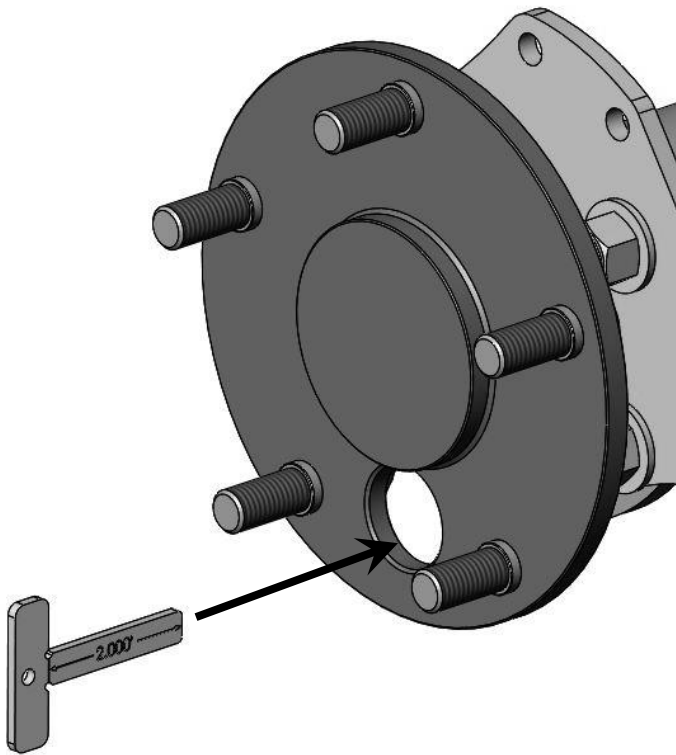
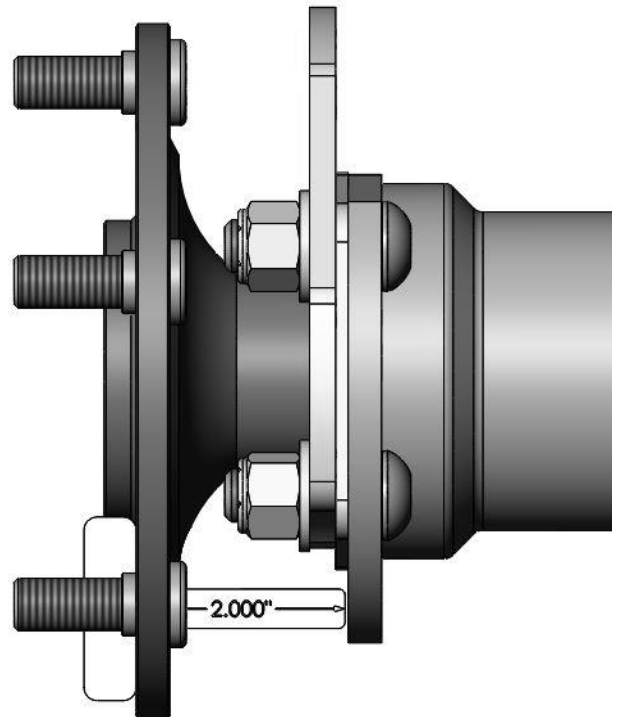

Figure 4 – Measuring Axle Standoff (2.000" Standoff Shown)
Figure 5 – Measuring Axle Standoff (2.000" Standoff Shown)
7. The standoff of the rear axle must be determined next. This is achieved by taking the supplied depth gauge and holding it flat on the face of the axle flange through the axle access hole. If the end of the depth gauge is touching or very close to the axle tube flange, your standoff is 2.000". If the end of the depth gauge is approximately .375" away from the axle tube flange, your axle standoff is 2.375". Refer to Figure 4 and Figure 5 below for reference on how to measure your standoff.